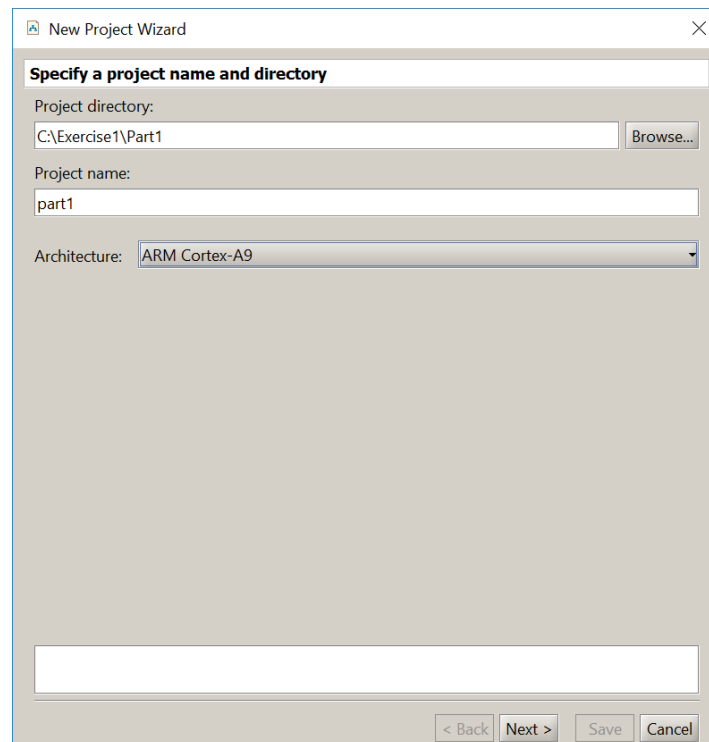
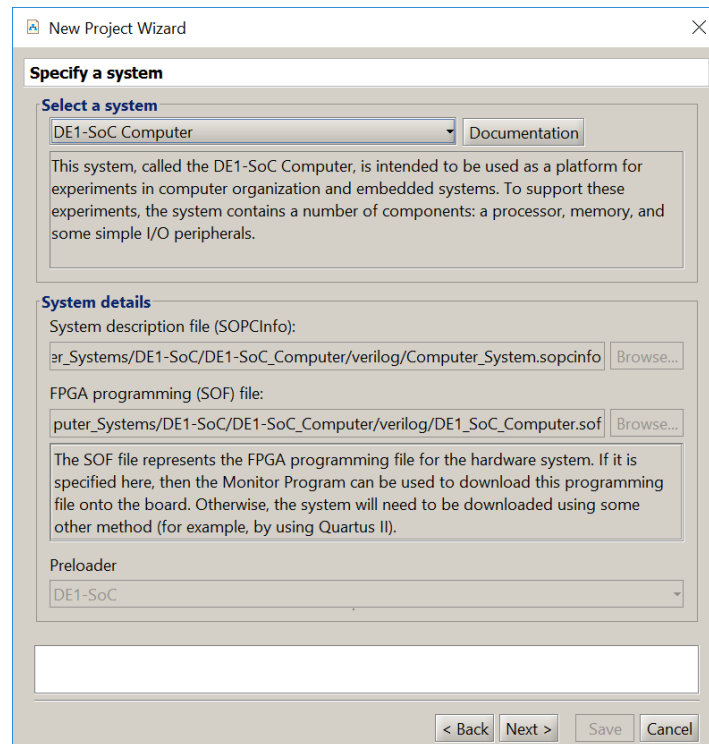

Figure 13: Specify the folder and the name of the project.
Figure 14: Specification of the system.
To develop ARM software code using the Monitor Program it is necessary to create a new project. Select **File > New Project** to reach the window in Figure 13. Give the project a name and indicate the folder for the project; we have chosen the project name *part1* in the folder *Exercise1\Part1*, as indicated in the figure. Use the drop-down menu shown in Figure 13 to set the target architecture to the ARM Cortex-A9 processor. Click **Next**, to get the window in Figure 14.
3. Now, you can select your own custom computer system (if you have one) or a pre-designed (by Intel) system. As shown in Figure 14 select the *DE1-SoC Computer*. Once you have selected the computer system the display in the window will now show where files that implement the chosen system are located. Click **Next**.